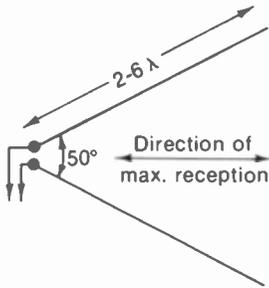

FIGURE 25-11 LONG-WIRE V ANTENNA.
**V antenna.** When two long wires are combined in the form of the horizontal V antenna shown in Fig. 25-11, the major lobes of the directional pattern for each wire reinforce along the line bisecting the angle between the two wires. Therefore, the V antenna receives best along the line of the bisector. The greater the electrical length of the conductor legs, the smaller the included angle of the V should be for maximum antenna gain.